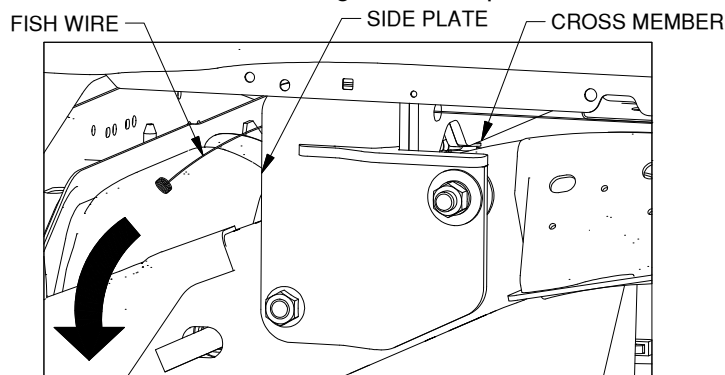

Figure H5: Looking at driver side frame.
5. **Pull fish wire through the cross members.** Feed the coil end of a fish wire through the holes in the front cross member parts, and the hole in the driver side plate. Move the end of the fish wire into an open space below the fuel tank and other obstacles, see Figure H5. Attach a 1/2" x 2" carriage bolt and pull the fish wire and bolt through all three parts.